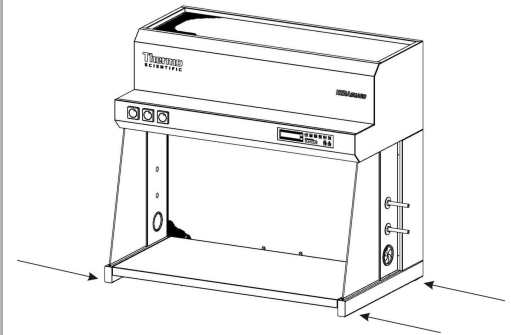

Fig. 2
**For transport, lift the device only at the lift points shown in figure 2. Do not allow the weight of the cabinet to rest on the working surface.**